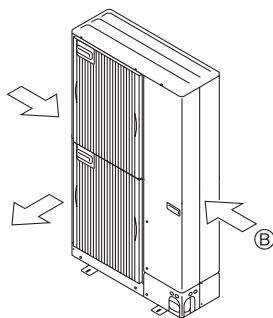

Fig. 4-1-2b
- ② Position the unit so that the air outlet blows perpendicularly to the seasonal wind direction, if possible. (Fig. 4-1-2b)